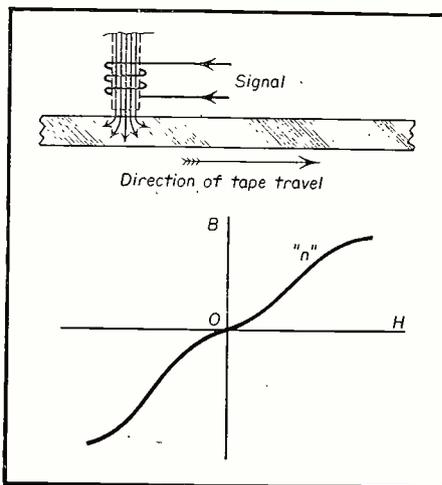

Fig. 4. Early single pole magnetization (longitudinal), and typical magnetization curve shown below.
When an early steel tape (1900 vintage) passed before a single recording pole longitudinally, the tape was subjected to saturation at right angles to its planer surface, and, being a permeable metal, was left with a north and south pole of polarity. Such a tape, carried past a recording pole piece where alternating signal flux was introduced, obviously produced a highly distorted record since only half cycles were recorded. The highly polarized tape caused only one side of the magnetization curve, (Fig. 4) to be used.
Improvement was gained by application of a bias current. At first a direct current was used to steer the recording flux to a more linear portion of the curve at point "n" Fig. 4. A d.c. erase or wiping current of some magnitude was required to obliterate records and for re-saturation of the tape.
1. When a tape is subjected to a magnetizing force (H), as in Fig. 4, the value of " H " is the result of that force combined with any force result-